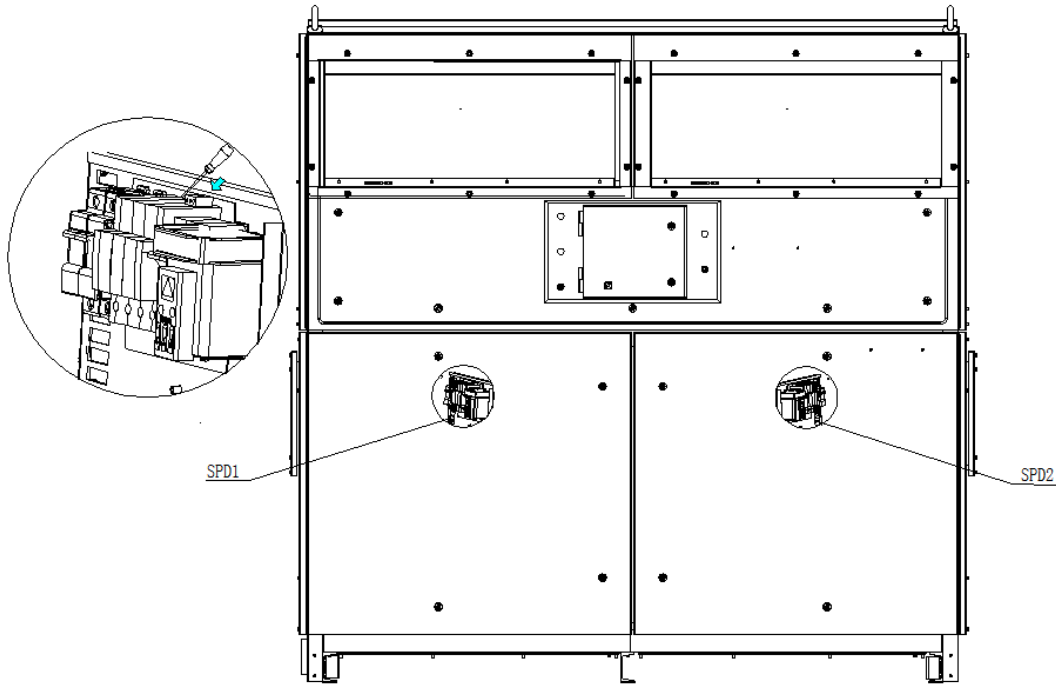

Figure 7-1 Positions of the DC surge protectors
The inverter requires periodic inspection and maintenance to ensure long-term reliable operating. Periodic maintenance can enhance the reliability of the inverter and prolong its service life. Figure 7-1 shows the periodic inspection checklist.
The markings of the DC surge protectors are SPD1 and SPD2. Figure 7-1 shows the positions of the surge protectors.
3. Replace the surge protector module using the relevant tools. As shown in Figure 7-1, when replacing the surge protector, remove the cables connected to it, and then connect the cables back after the replacement.